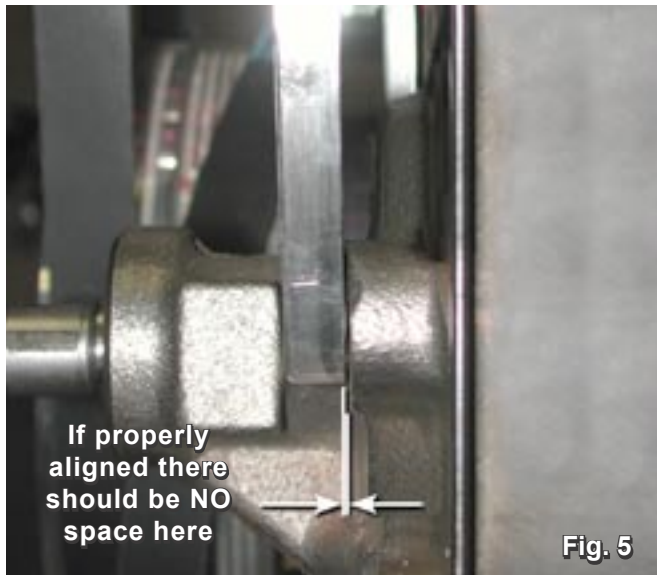
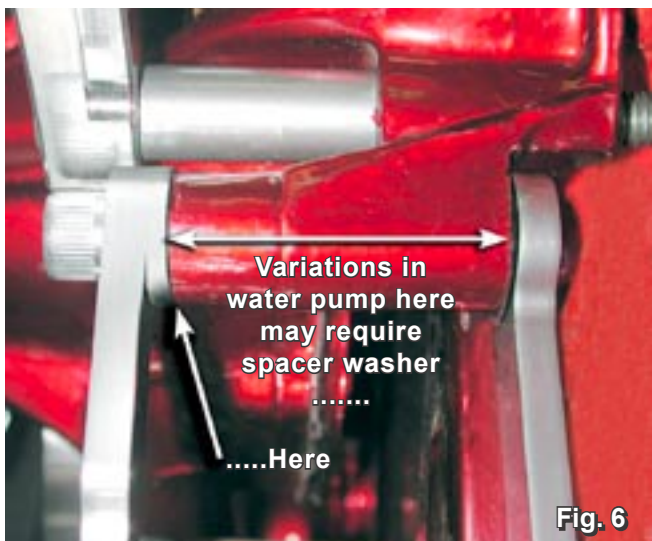

Fig. 5
Fig. 6
6. Referring to (fig. 5), the power steering mounting face should meet the back of (20151-A) Power Steering Bracket. If not, use spacer washers in the appropriate places (fig. 4, fig. 6) to properly align pump.
Important Note: Due to variations of water pump boss castings particularly in aftermarket and polished pumps it may be necessary to add spacer washers between (20176-A) Front Support Bracket and the water pump boss. (fig. 6) if this should be required it will also be necessary to place a second spacer washer between the (20176-B) Rear Support Bracket and power steering pump. (fig. 4)